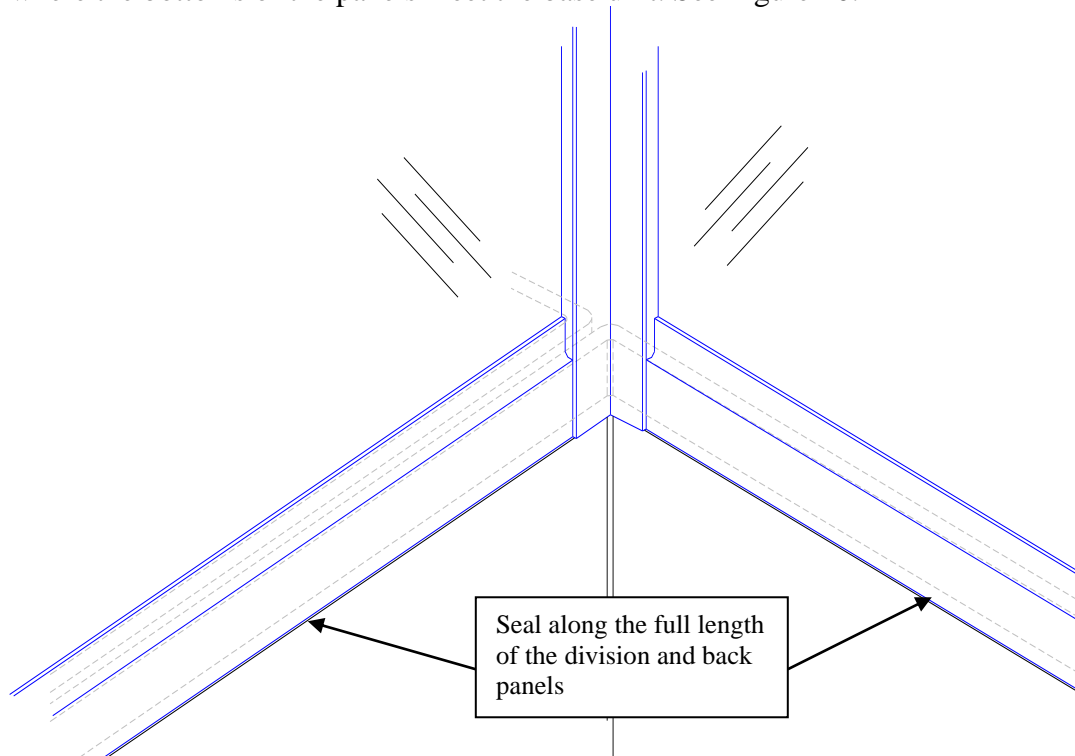

Figure 10.
1. Seal the Division Panels and Back Panels to the base unit with silicone caulk along the joints where the bottoms of the panels meet the base unit. See Figure 10.